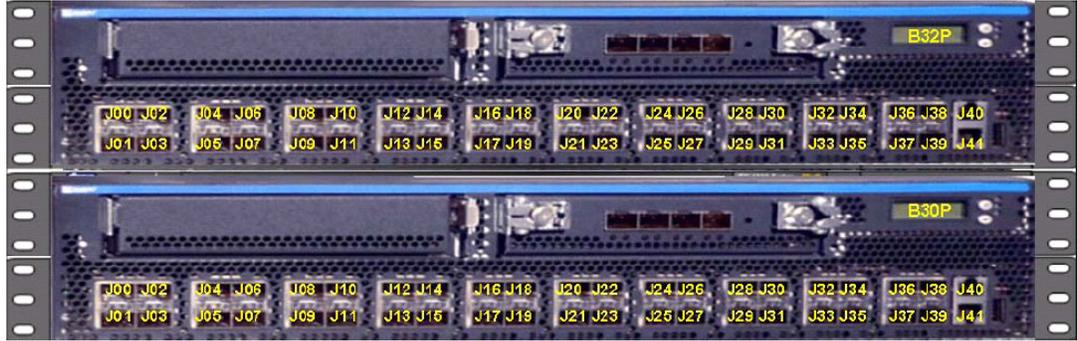

Figure 7-10 Two 10 GbE TOR switches
- ▶ Two 10 GbE TOR switches in the zBX (Rack B) are used for the IEDN. No additional Ethernet switches are required. Figure 7-10 shows the 10 GbE TOR switches.